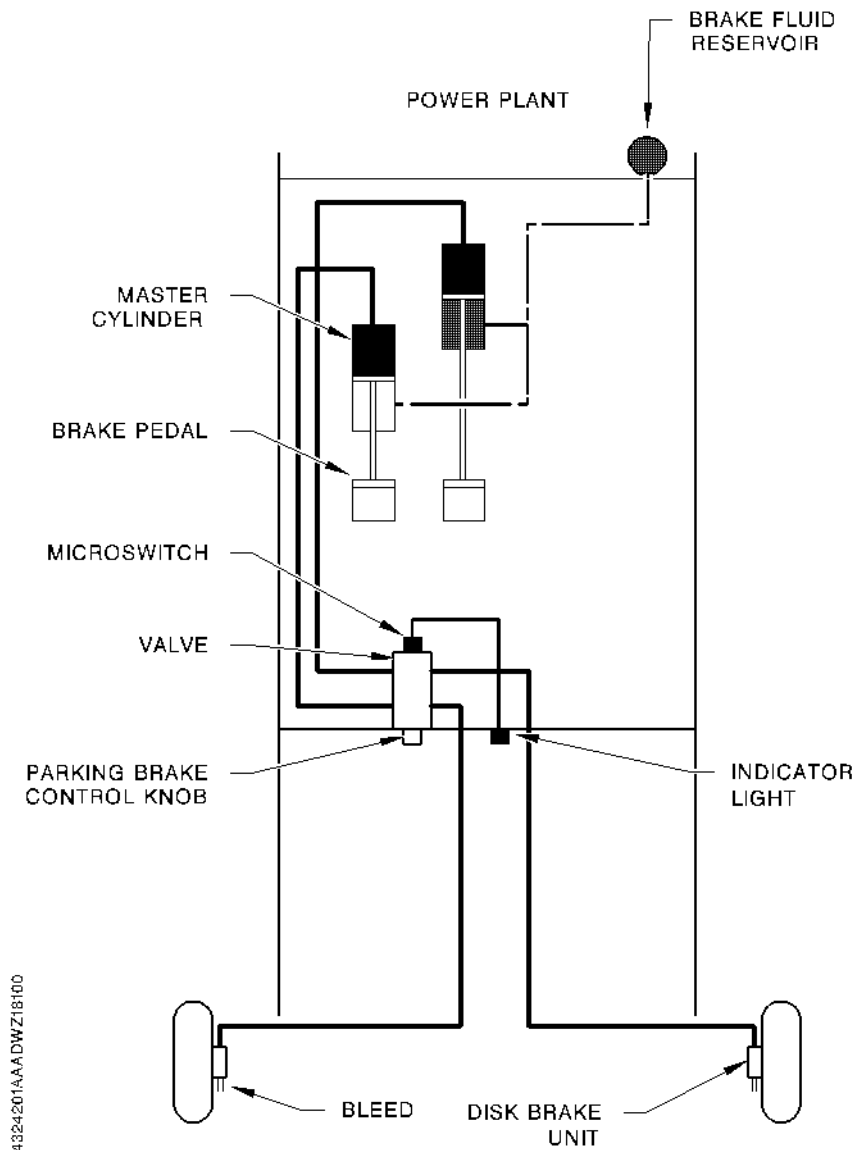

Figure 7.15 - BRAKE SYSTEM (L.H. station only)
■ BRAKING (see Figure 7.15 or 7.15A)